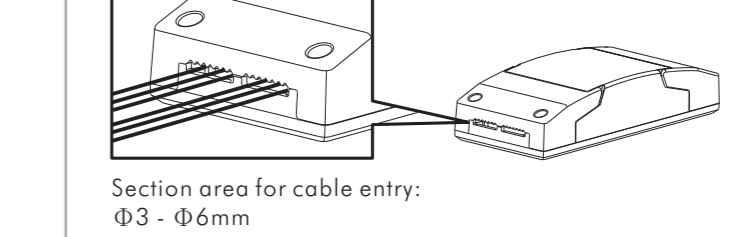

FIG.15
- Adjust detector head's position and assure bottom of detector head's stuck firmly on ceiling (See FIG.15).